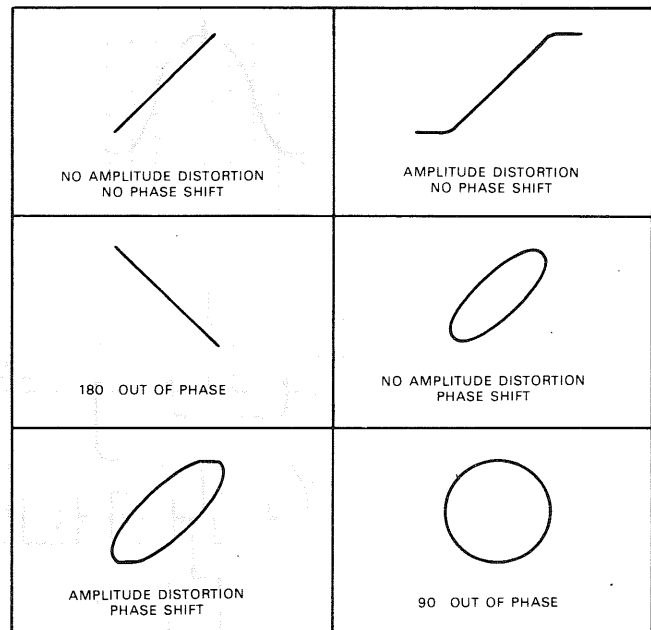
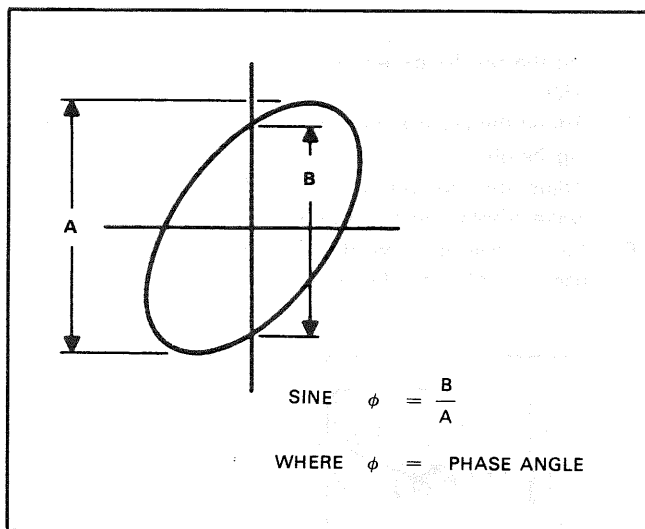

Fig. 20 Typical phase measurement oscilloscope displays
Fig. 21 Phase shift calculation
7. Some typical results are shown in Fig. 20. If the two signals are in phase, the oscilloscope trace is a straight diagonal line. If the vertical and horizontal gain are properly adjusted, this line is at 45° angle. A 90° phase shift produces a circular oscilloscope pattern. Phase shift of less (or more) than 90° produces an elliptical oscilloscope pattern. The amount of phase shift can be calculated from the oscilloscope trace as shown in Fig. 21.